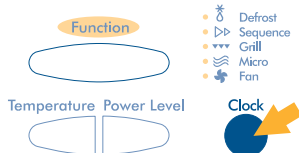

fig. 10
- 7) **Do not cook eggs in their shells** (fig. 10): the pressure which builds up on the inside would cause the egg to explode, even after cooking has finished. Do not heat up eggs which have already been cooked, unless they are scrambled.